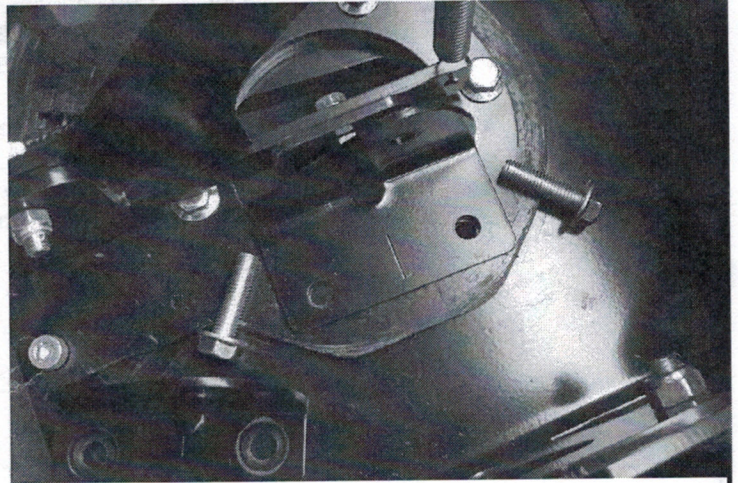

Figure 1
1. Install the pulley mounting bracket. This bracket must be installed on the right side of the plow as shown. Remove the two plow base bolts as shown in Figure 1.